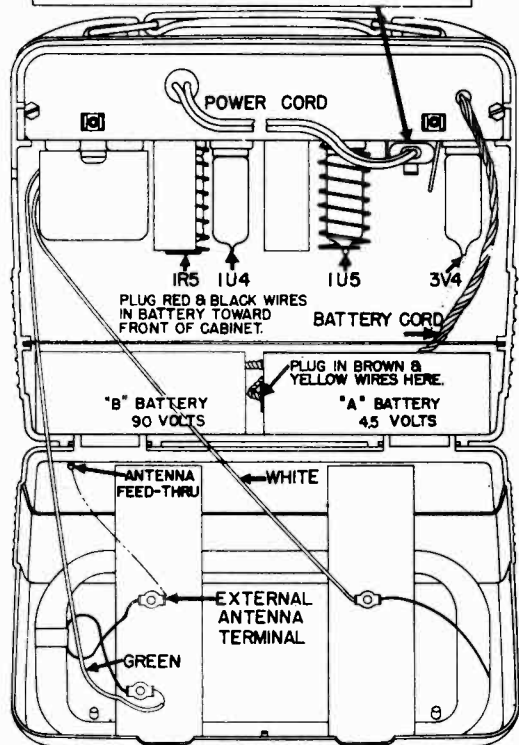

FIG. 2 — REAR VIEW WITH COVER OPEN
**BATTERY PLACEMENT NOTE:** The batteries should be inserted in the relative position shown in Fig. 2 with the connector end of the "B" battery facing the front of the receiver the connector end of the "A" battery facing the side of the "B" battery.